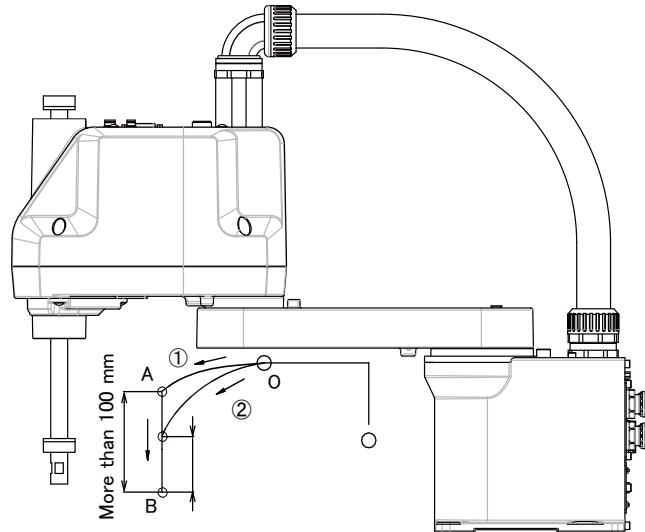

Fig.2-9 : Recommended path when positioning at the bottom edge of the Z axis
- 3) When positioning the work near the bottom edge of the Z axis, if no effectiveness is achieved in step "2)" above, perform operation ① (robot path: O → A → C). In the case of operation ② (robot path: O → B → C), residual vibration may occur. (Refer to Fig. 2-9.)